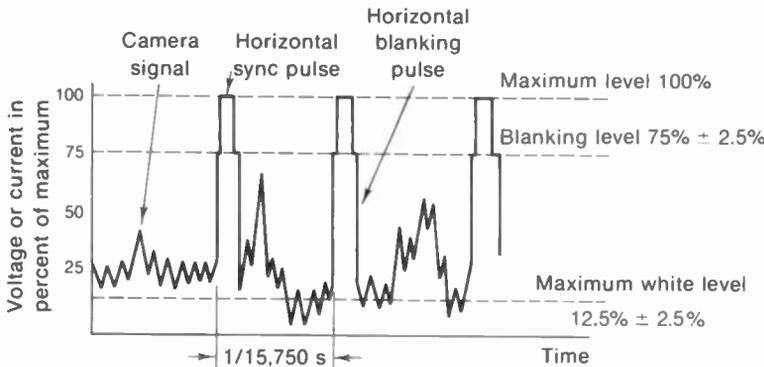

FIGURE 5-2 COMPOSITE VIDEO SIGNAL FOR THREE CONSECUTIVE HORIZONTAL LINES.
In Fig. 5-2, successive values of voltage or current amplitude are shown for the scanning of three horizontal lines in the image. Note that the amplitude of the video signal is divided into two sections. The lower 75 percent is used for camera signal, with the upper 25 percent for synchronizing pulses. In the camera signal, the lowest amplitudes correspond to the whitest parts of the picture while the darker parts of the picture have higher amplitudes. This is the way
**The composite video signal and scanning.** Referring again to Fig. 5-2, consider the amplitude variations shown as the desired video signal obtained in scanning three horizontal lines at the top of the image. Starting at the extreme left in the figure at zero time, the signal is
With respect to time, the signal amplitudes just after blanking in Fig. 5-2 indicate information corresponding to the left side at the start of a scanning line. Just before blanking, the signal variations correspond to the right side. Information exactly in the center of a scanning line occurs at a time halfway between blanking pulses.